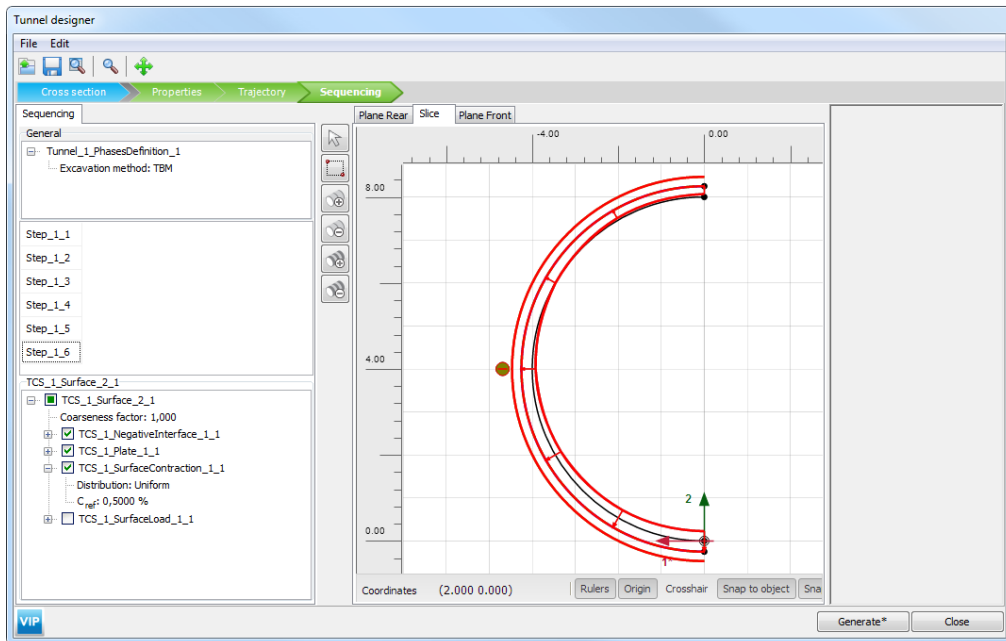

Figure 5.14 *Slice* tabsheet in the *Tunnel designer* for Step_1_6
- Step_1_6, tail of the shield:** The last slice of the shield has a constant diameter. Hence, from the *Slice* tabsheet select the outer surface and select the surface contraction. In the *Selection explorer* select the *Uniform* option with $C_{ref} = 0.5\%$ (Figure 5.14).